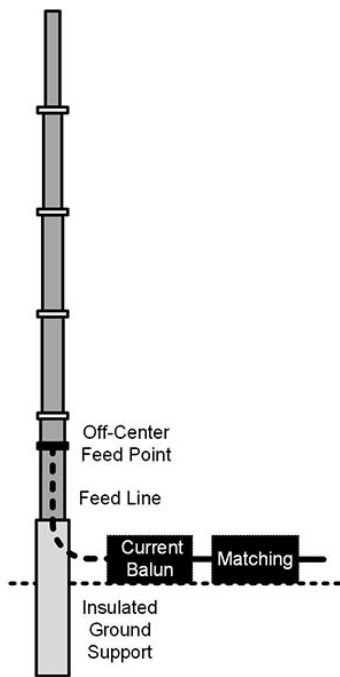

**Figure 1: 20 ft. modified Harbor Freight flagpole**
These are the challenges. To be both stealthy and a good performer, a flag-flying HF antenna should (1) have no radials (2) be just a plain pole that is externally tuned and matched (3) work multi-bands and (4) be fed coaxially (5) be free standing. Sound difficult? Not so. This attractive patriotic home-brew special (Figure 1), accomplishes all these at modest cost.